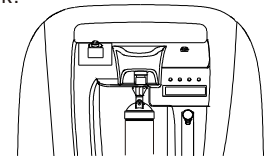

Figure4
Tubing Connection with Humidifier bottle:(Figure 4)
3. Attach the oxygen tubing to the outlet of the bottle. Figure 4